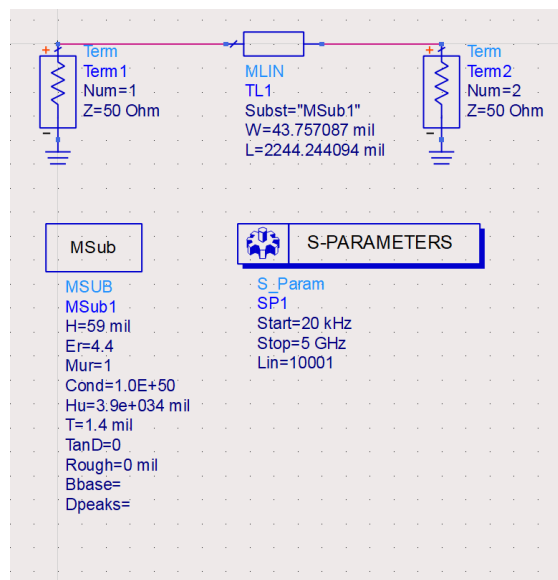

Figure 7: *Sparam1* Schematic.
1. Create a new schematic named "*Sparam1*". Draw the circuit with the given parameters as in Figure 7. You might not be familiar with the components we used here; the lecture will soon cover them.